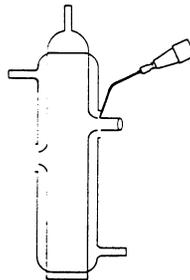

**Figure 17**
Occasionally, when working in the confined spaces where this torch would be useful, the conditions will lead to a flashback. This flashback may cause the needle to pop off the holder, which may damage the piece being worked. A Luer-lok holder alleviates this problem since the needle is locked on. In Figure 17 (A) represents a standard syringe holder and (B) indicates a Luer-lok holder.